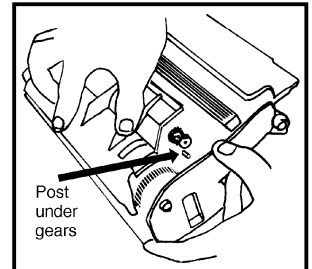
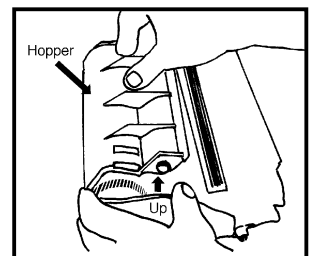

Figure 7
Figure 8
6. To remove the hopper from the cartridge shell, locate the plastic post on the right side of the toner hopper under 2 small white gears (Fig. 7). Pull the hopper back and pry up to disengage the post from the C shaped notch (Fig. 8) and remove the hopper.